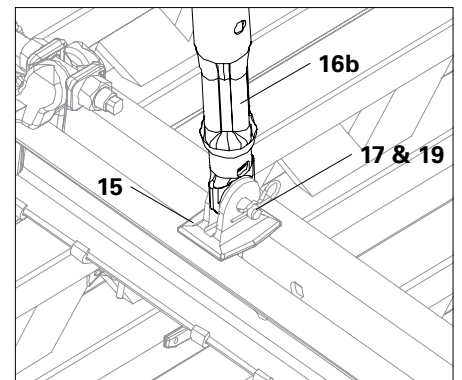

Fig. B5.02b
2. Secure second push-pull prop (16b) to the Wedge Headpiece SRZ/SRU (15) using Bolts \varnothing 16 x 42 (17) and Cotter Pins 4/1 (19). (Fig. B5.02b)